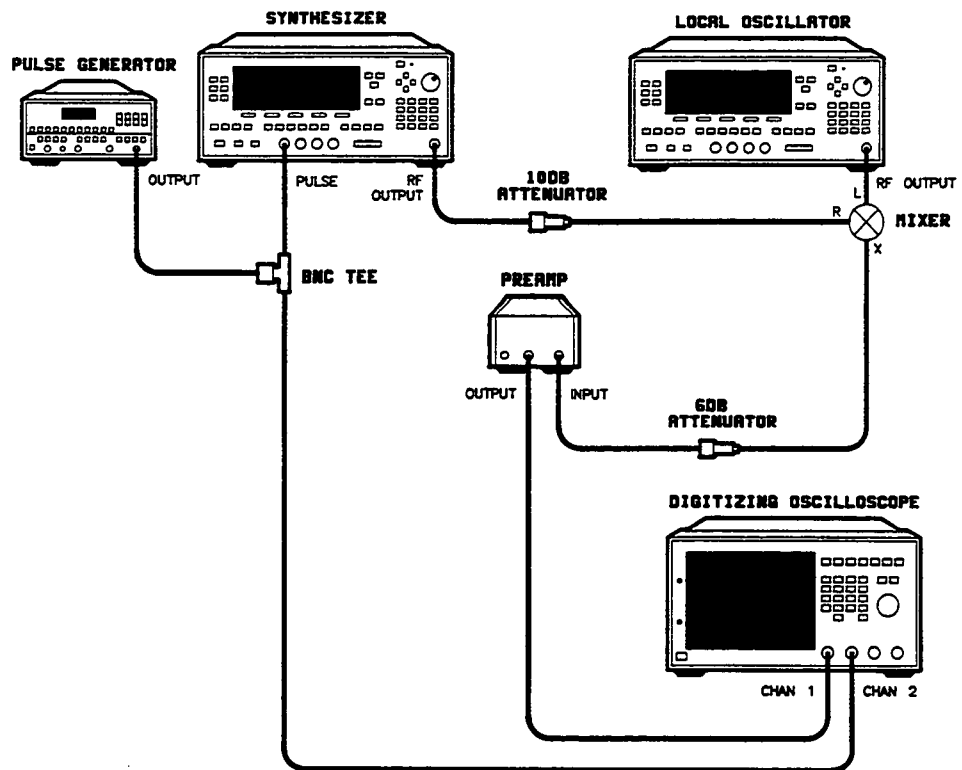

Figure 2-15. Pulse Performance Test Setup
1. Connect the equipment as shown in figure 2-15. Preset the instruments and let them warm up for at least one hour.